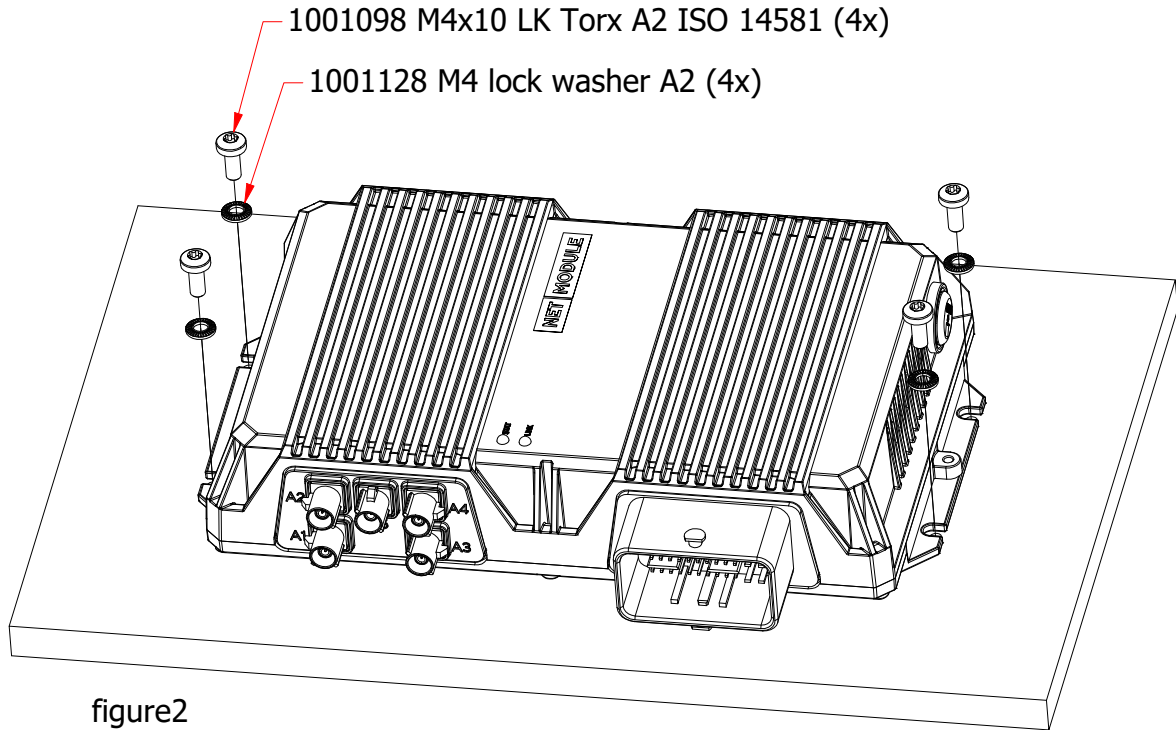

figure2
3.1 Place the screw and lock washer over the mounting hole (figure2)